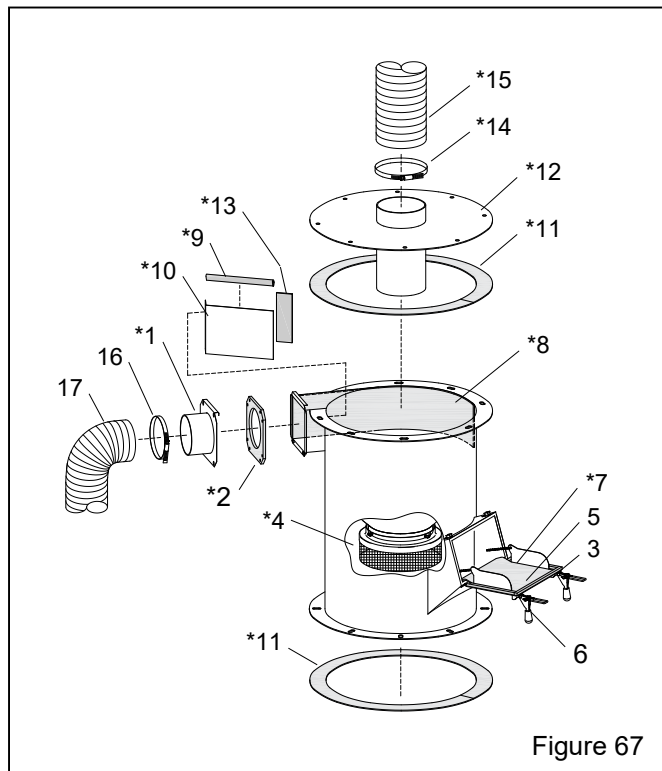

Figure 67
10.10 Reclaimer, 600 CFM – Figure 67